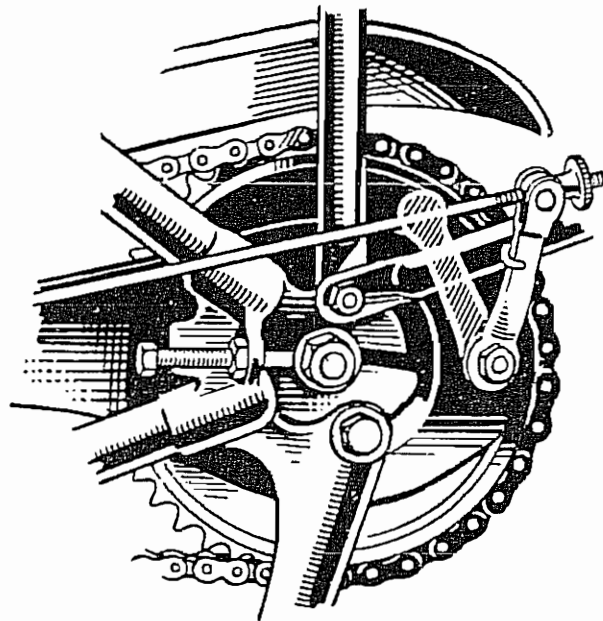

Fig. 42. ADJUSTING THE BRAKES
**Front Brake.** To adjust the brake shoes closer to the brake drum, turn the knurled thumb nut (See Fig. 42) in a clockwise direction. The brake should be set so that when it is fully applied the lever is just clear of the handlebar. By this adjustment, the rider will be able to exert the maximum amount of grip on the lever. After making an adjustment, spin the wheel to ensure that the brake shoes are not binding on the brake drum.
**Rear Brake.** The adjustment is made by turning the knurled thumb nut (See Fig. 42) at the rear end of the brake operating rod in a clockwise direction. After adjusting spin the wheel to ensure that the brake is not binding. On the Rigid Frame Models an adjustment can be made to the brake pedal position, but after making an alteration, the brake must be re-adjusted.